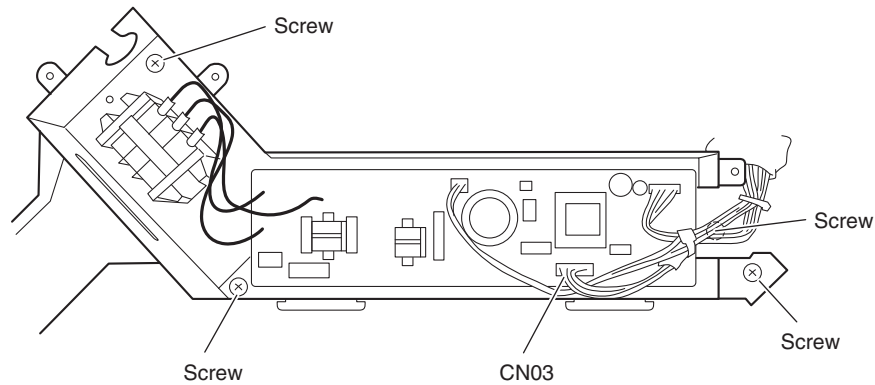

Fig.14
- (5) Disconnect the connector CN03 (DCM 6P) in the power box. (Fig. 14)
- (6) Remove the 4 screws and remove the power box. (Fig. 14)